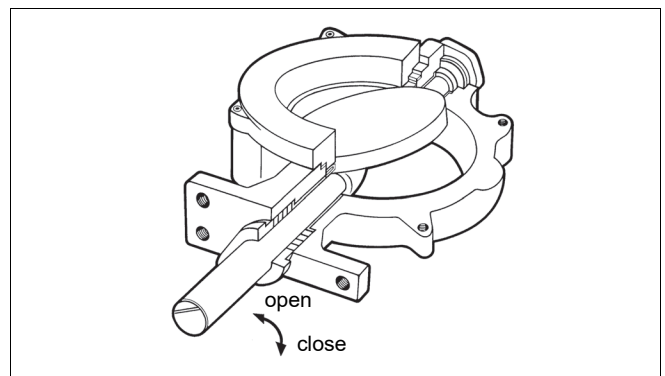

Fig. 13 The contact line between the disc and seat
- Centre the seat ring (4) carefully into its groove and turn the disc to maintain light contact with the seat.
- Mount the clamp ring and tighten the screws (27) lightly.
- Tighten the screws (27) evenly. An unevenly tightened flange may damage the seat ring.
- Check the position between the seat ring and the disc. The valve closes clockwise (see Fig. 13).
- Press the shafts into the disc drillings. Align the pin holes. The shaft (13) position against the disc must be according to Fig. 13.
- Install the body seal (19) and the clamp ring (2). See details in Section 5.4.
- Check the contact line between the seat ring and the disc (see Fig. 13).